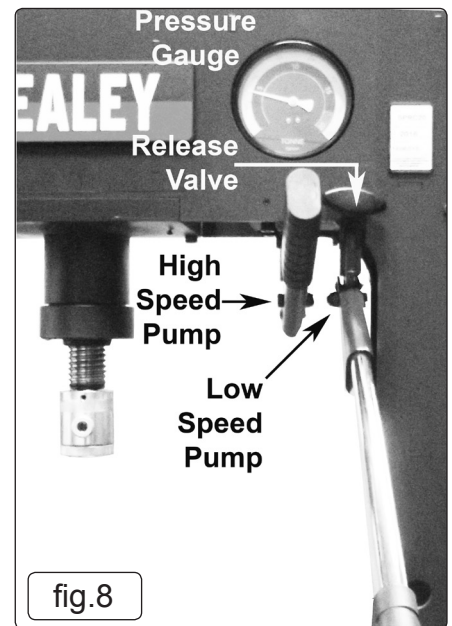

fig.8
- 4.2.4. Fit the long pump handle into the socket of high speed pump (fig.8).